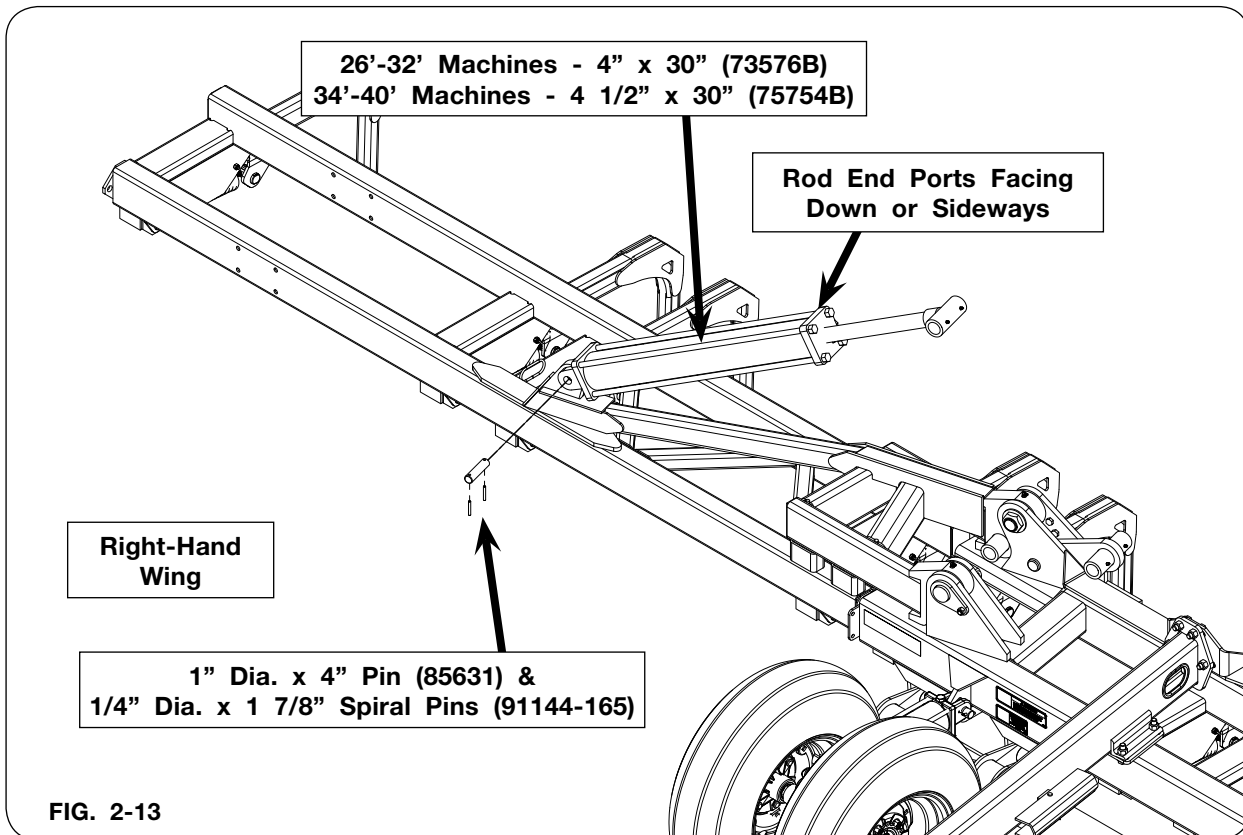

FIG. 2-13
3. Place one of the braces into position. The plates should sit flush against the inside of the A-frame and the front of the main frame. (FIG. 2-12 & FIG. 2-13)
5. Fasten the base end of the cylinder with a base end port facing down or sideways to the left-hand wing assembly with 1" Dia. x 4" pin (85631) and 1/4" Dia. x 1 7/8" spiral pins (91144-165) using FIG. 2-13 for reference. Hardware can be located in the parts box/crate (26'-32' Machines - 75875B; 34'-40' Machines - 75812B).